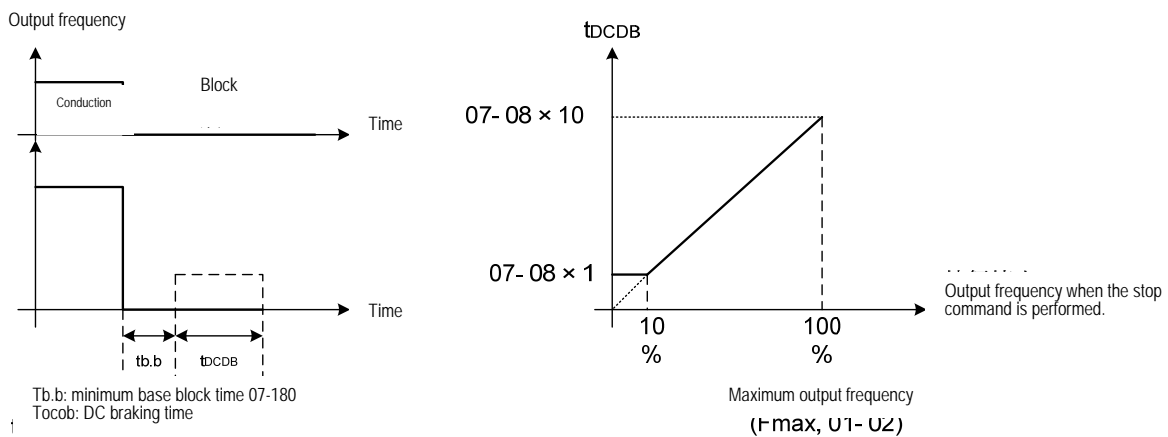

Figure 4.3.60 DC braking to stop
.The DC braking time (t_{DCDB}) of Figure 4.3.60 is determined by the set value of 07-08 (DC Braking start time) and the frequency that operation command is removed.
- . Please refer to Figure 4.3.60 to understand the function of DC braking to stop.